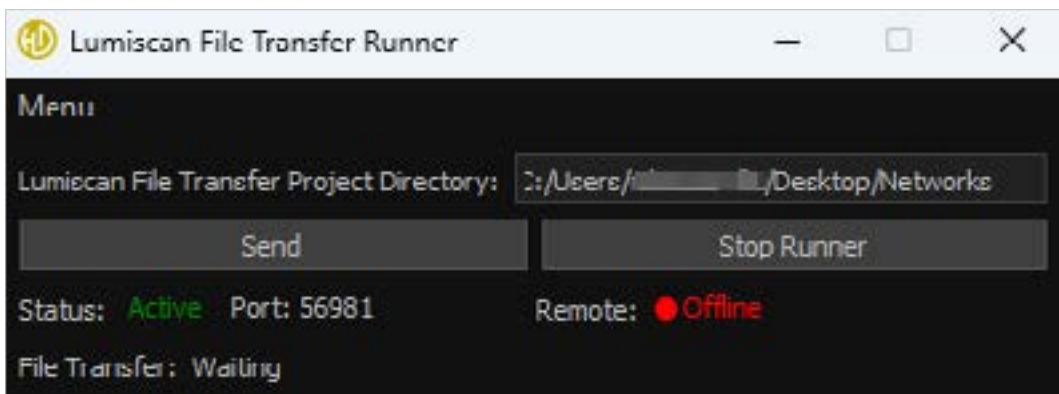

Fig. 29: LumiScan File Transfer: Runner started
2. The status changes to **Active** (Fig. 29).